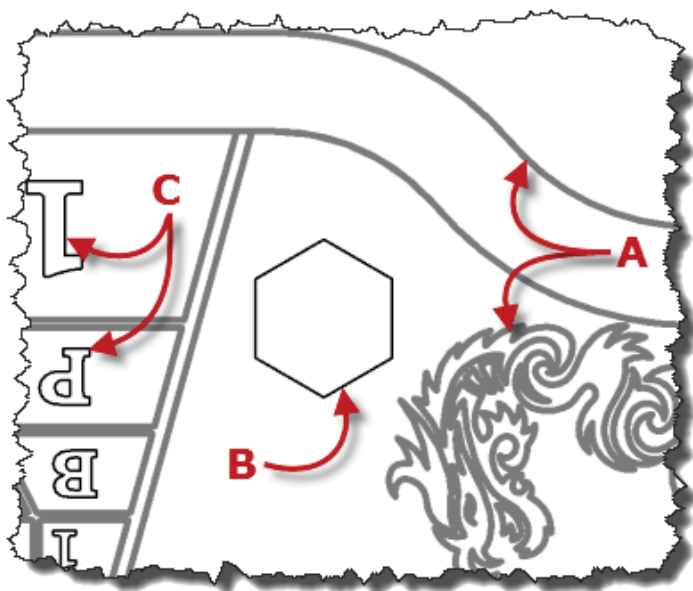

Figure 23 - Elements appearing as gray color
1. As you're assigning visibility settings of your family's components, elements that you set not to display on plan views will appear as gray (A, Figure 23) with a thicker line weight.
The two exceptions are elements higher than the view range (B, Figure 23) and the model text (C, Figure 23). In the case of elements higher than the view range, just change the Top and Cut Plane heights of the View Range (Properties palette>Extents>View Range) to be higher than the tallest element. That way, elements below this view range